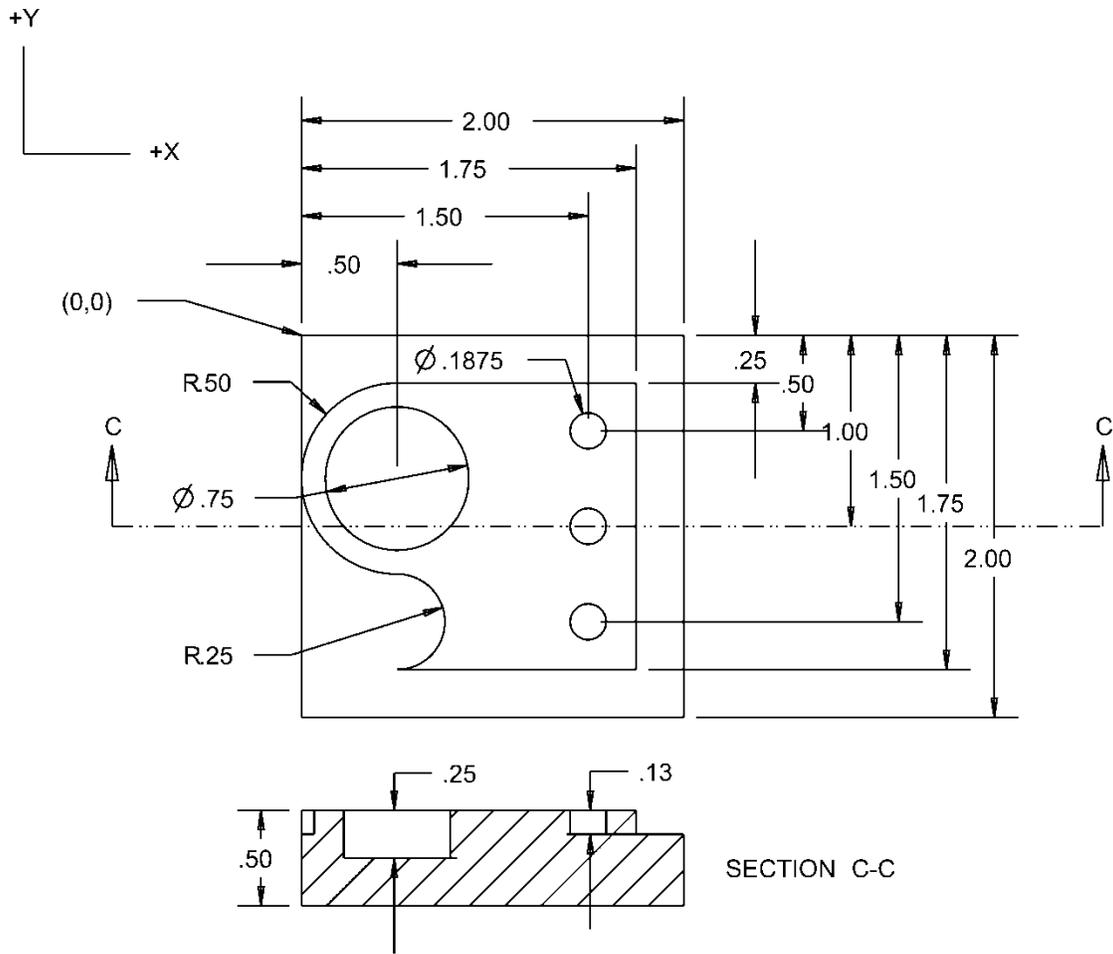

Figure 1: Part drawing.
This week's laboratory assignment involves using the CAM software (Mastercam X4) to create a part program for the part shown in Figure 1, post-processing the program and running it on the Emco-Meier CNC milling machine.
1. Using the Mastercam X manual and help files (if necessary), create a part program for the part shown in Figure 1. The workpiece is Aluminum 6060-T6, 2×2×0.5 inches in size with the origin located on the upper left corner of the top surface. Use the cutting conditions below for the following three operations: contouring, pocketing, and drilling.